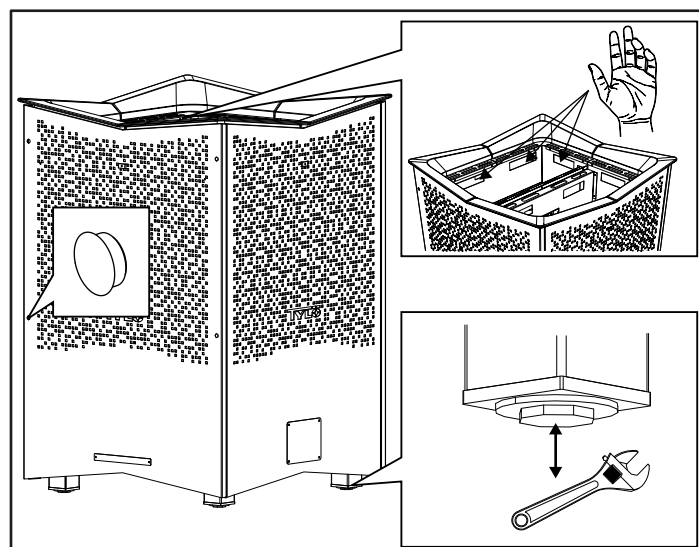

Figure 17: Adjust the feet and mount cover caps
13. To make sure the heater stands stable, adjust the feet and put it into place, see figure 17. Put the heater in place according the safety measurements in figure 3.